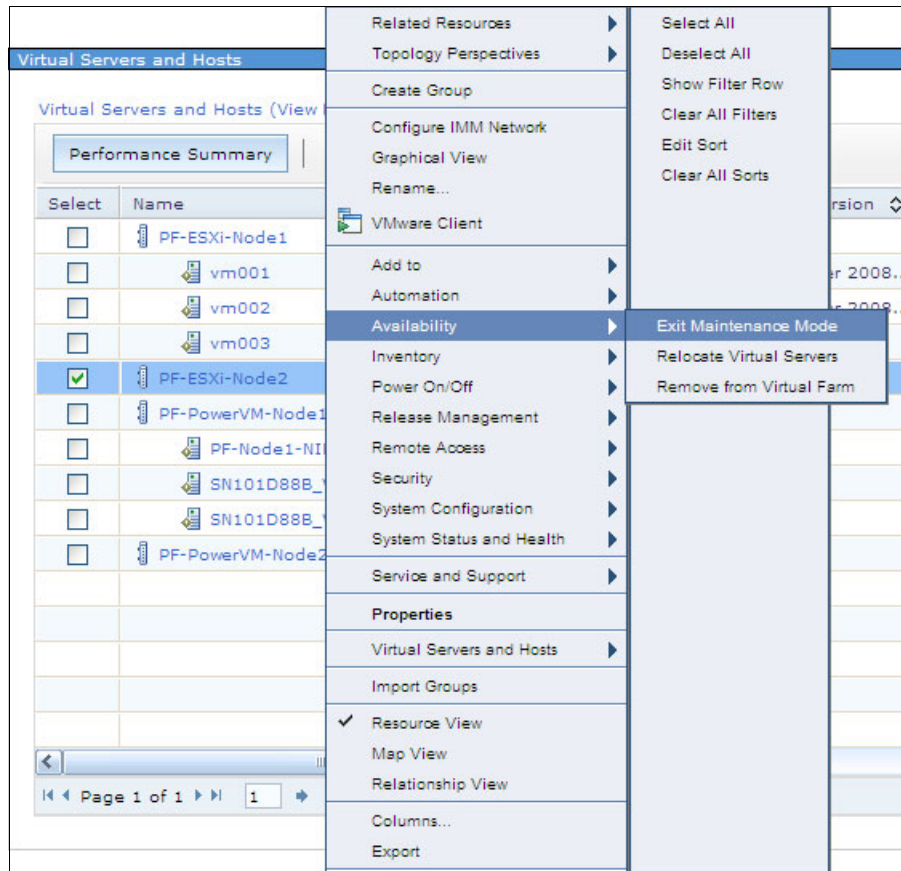

Figure 11-58 Exit Maintenance Mode menu item in Virtual Servers and Hosts window
3. Select **PF-ESXi-Node2** and click **Actions** → **Availability** → **Exit Maintenance Mode**, as shown in Figure 11-58.